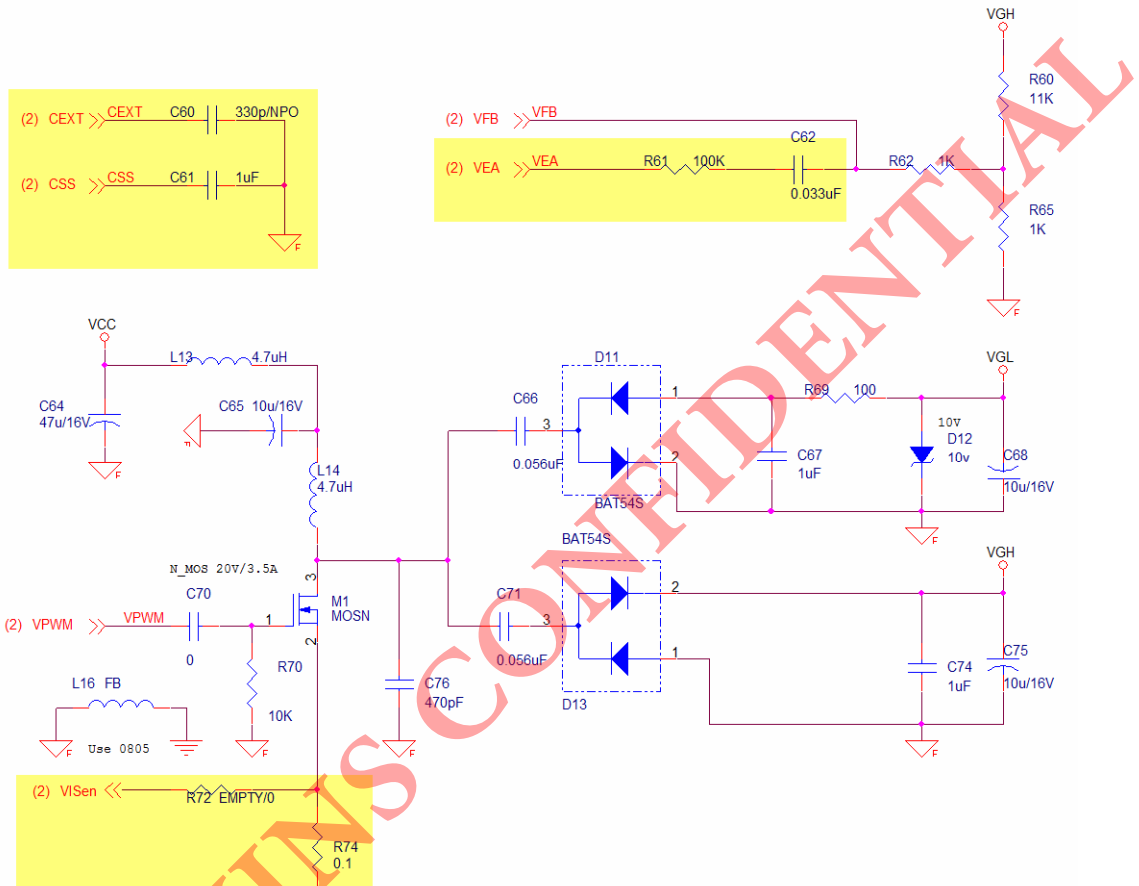

Figure 1-5 T107DL's original DC-to-DC converter circuit.
Remove (NC) all components used in CSS, CEXT, VEA and VIsen of T107DL(C60, C61, C62, R61, R72 and R74 in Fig. 1-5). T107BL's pin assignment is the same as T107DL, so you could apply the original T107DL's schematics/PCB directly and let above components NC(but R74 should be 0ohm or short to GND).